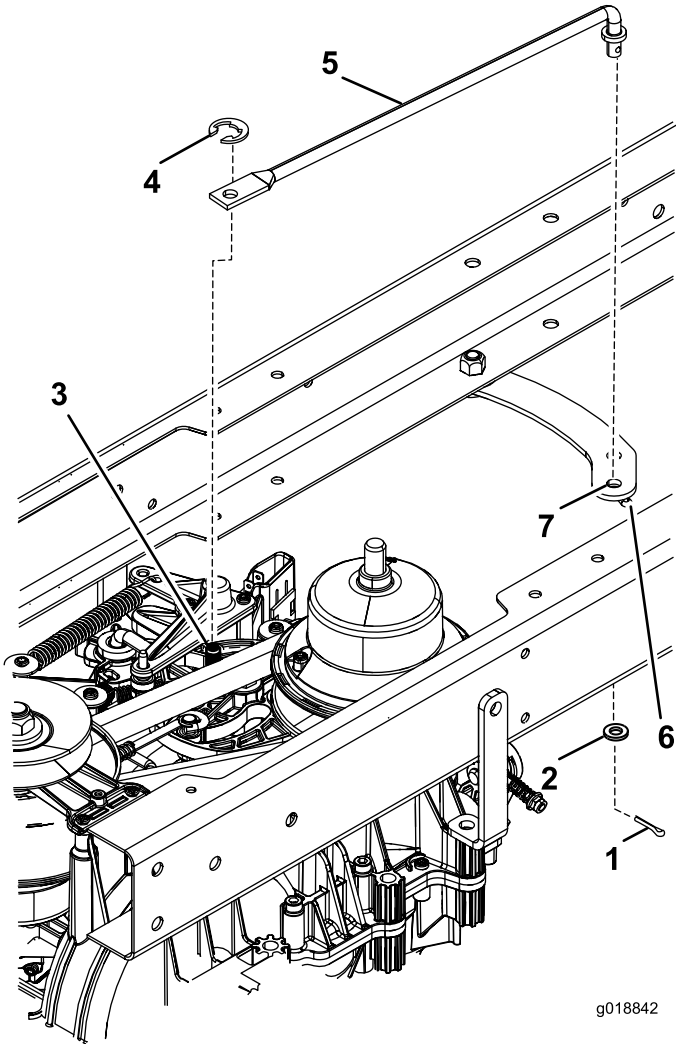

Figure 3
- Install the rear motion control link arm using the flat washer and hairpin cotter (Figure 3) supplied with this kit and the existing E-clip from step 2.